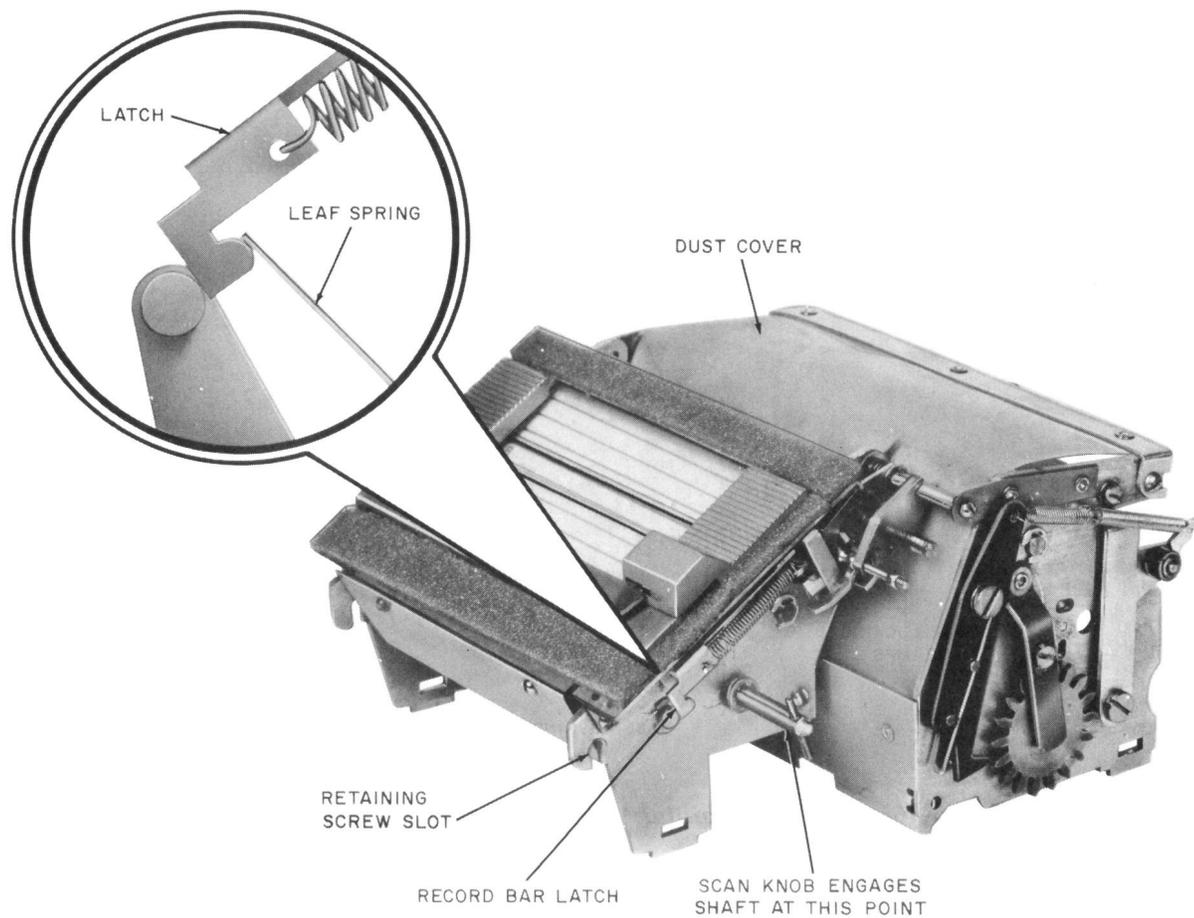

Fig. 11—List 6 Tape Assembly (Front View)
- (6) Lower tape assembly onto base, carefully engaging recording head pin in hole in draw tape tab.
- (7) Line up tape assembly so all four lugs fall in base slots.
- (8) Lift front of tape assembly approximately 3/4-inch and push record bar leaf spring back (with 3-1/2 inch screwdriver) about 1/2-inch.
- (9) Lower tape assembly, allowing spring to rest on latch (Fig. 11).